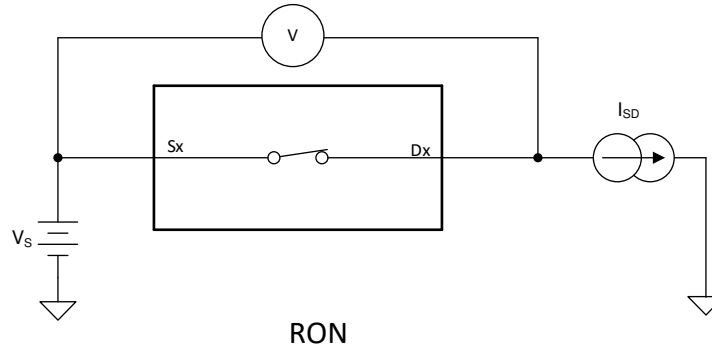

图 6-1. On-Resistance
The on-resistance of a device is the ohmic resistance between the source (Sx) and drain (D) pins of the device. The on-resistance varies with input voltage and supply voltage. The symbol  $R_{ON}$  is used to denote on-resistance. 图 6-1 shows the measurement setup used to measure  $R_{ON}$ . Voltage (V) and current ( $I_{SD}$ ) are measured using the following setup, where  $R_{ON}$  is computed as  $R_{ON} = V / I_{SD}$ .